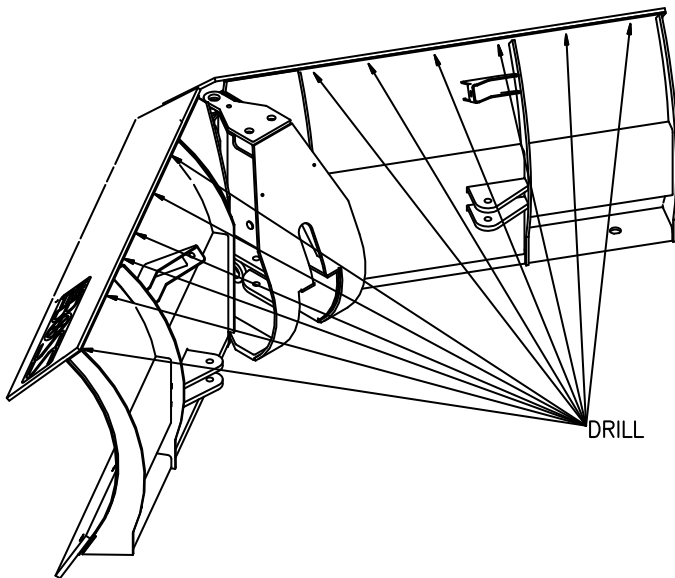

Figure 4. Drilling Procedure
- 3) Using the holes in the blade skin as a guide, either mark the Rubber Belting (1) with a marker and remove the belting to drill, or drill through Rubber Belting (1) from the backside of the blade using a 3/8" diameter drill. Use figure 4 as a reference.